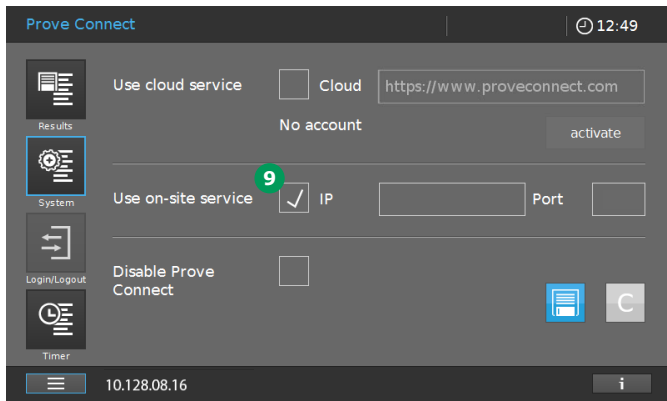

Figure 37 - Screenshot of Prove Connect menu after clicking on it in Figure 36
5. Set the checkmark for "Use on-site service" 9 (Figure 37).
6. Enter the IP address 10 and Port 11 (Figure 37) shown in the Prove Connect to LIMS status bar into the instrument.